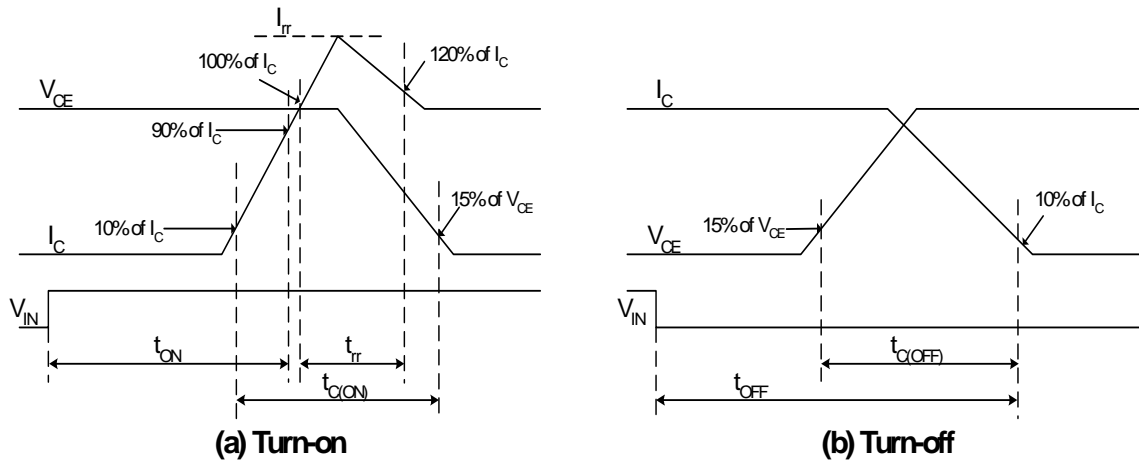

Figure 4. Switching Time Definition
2.  $t_{ON}$  and  $t_{OFF}$  include the propagation delay of the internal drive IC.  $t_{C(ON)}$  and  $t_{C(OFF)}$  are the switching time of IGBT itself under the given gate driving condition internally. For the detailed information, please see Figure 4.